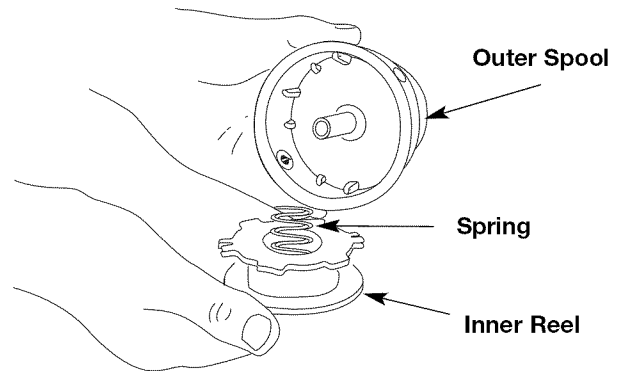

Fig. 16
2. Remove the inner reel from the outer spool (Fig. 16).
3. Remove spring from the inner reel (Fig. 16).
- Remove the old inner reel from the outer spool (Fig. 16).
- Remove the spring from the old inner reel (Fig. 16).